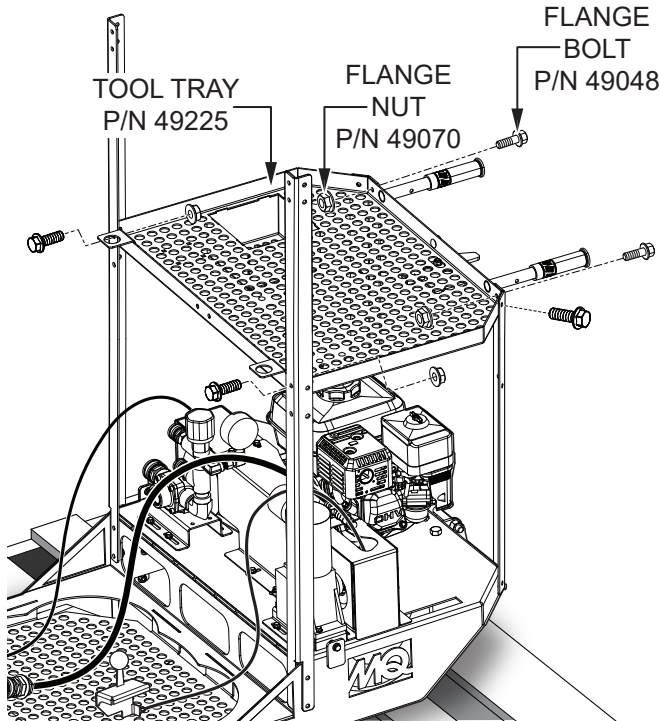

Figure 7. Tool Tray Installation
- Secure the tool tray (P/N 49225) to the four upright frame mounts with five 1/4-20 x 3/4" flange bolts (P/N 49048) and five 1/4-20 flange nuts (P/N 49070). See Figure 7.